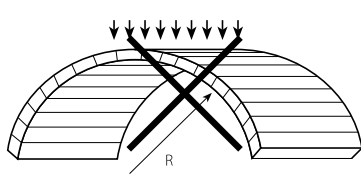

Figure 1a
1. SUNLITE sheets should be installed with the rib channels sloping downwards (Figs. 1a, 1c, 2). That orientation will reduce accumulation of dirt inside the sheet and ease gravity drainage of any condensation moisture.